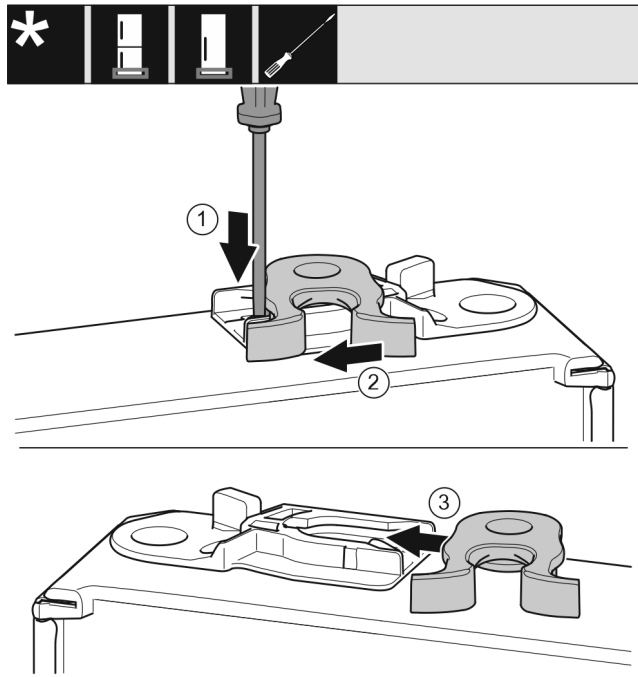

Fig. 21
- Use a slotted screwdriver to push the tab Fig. 21 (1) downwards.
- Pull the closing hook Fig. 21 (2) out of the guide.
- Insert the closing hook Fig. 21 (3) into the guide on the other side.